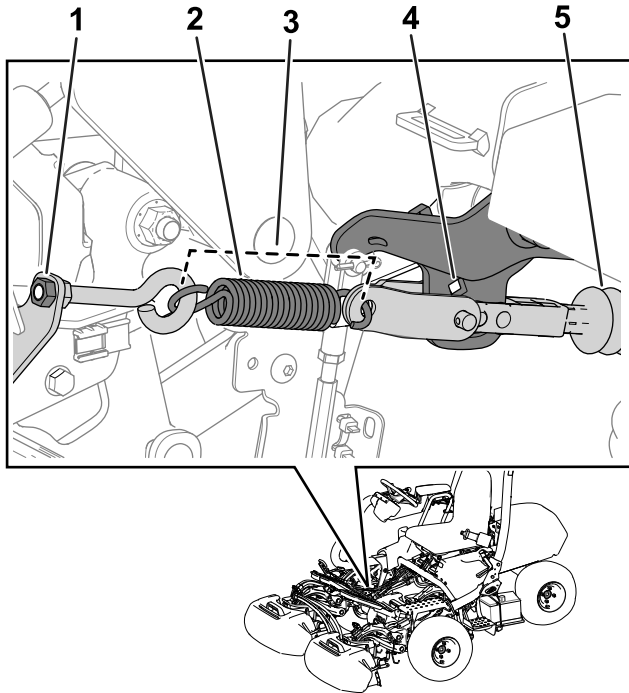

Figure 33
Note: Refer to Figure 33 for this procedure.
3. Prepare for operation by tightening the eyebolt nut so that the spring length is 11.4 cm (4.5 inches) when installed (Figure 33).